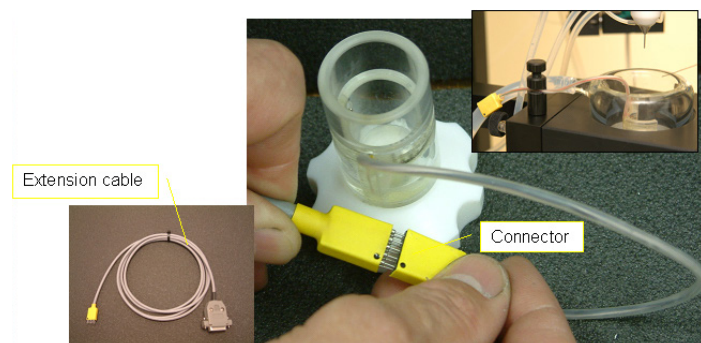

Fig. 46–Connect the MAP sensor to the extension cable.
2. Connect the lead of the MAP sensor to the extension cable (Fig. 46). Connect the Canon (D-sub) connector on the end of the extension cable to the input of the fourth channel on the amplifier provided with the system. This amplifier is capable of recording signals from 3 different positions around the heart at the same time.